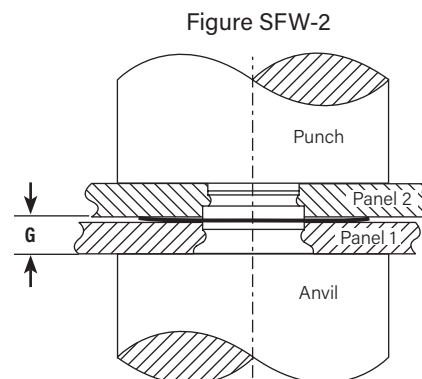

Figure SFW-2
- Step 3. To ensure proper function of washer, place washer over installed fastener (concave side facing up), then place Panel 2 over fastener. Apply squeezing force. Keep gap between Panel 2 and anvil. (See "G" in figure SFW-2).